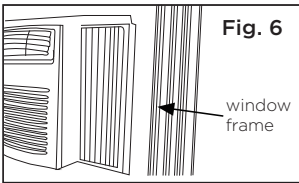

**Fig. 5**
2. While keeping a firm grip on the air conditioner, carefully place the unit into the window opening so the bottom of the air conditioner frame is against the window sill (Fig. 5). Carefully close the window behind the top rail of the unit.
Check that air conditioner is tilted back per dimension H (Fig. 5) (tilted about 3° to 4° downward to the outside). After proper installation, condensate should not drain from the overflow drain hole during normal use. Adjust the slope if otherwise.